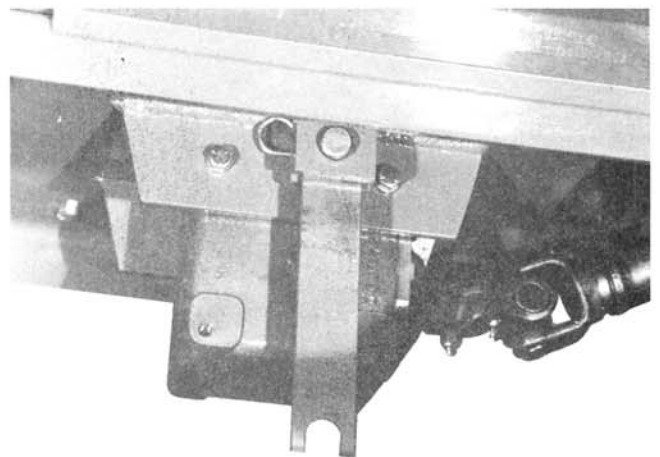

fig 13
2. Secure lift straps to mower with clevis pin (item 80) and hair pin cotter (item 24). See fig 13.